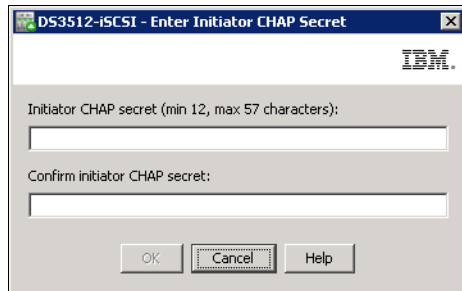

Figure 12-7 Storage Manager - initiator CHAP secret
- In the window that is shown in Figure 12-7, enter an initiator CHAP secret with at least 12 characters twice. The same initiator CHAP secret must be set for an iSCSI initiator on the host server. Click **OK** to continue.